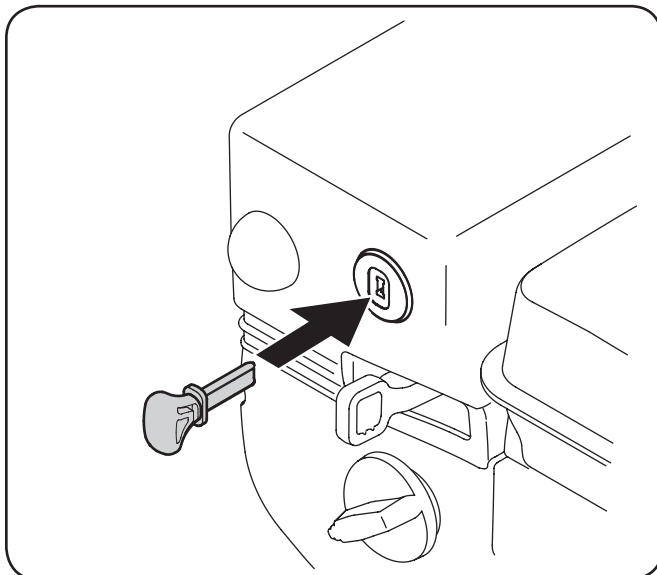

Figure 5-1
2. Insert the ignition key fully into the slot, Fig. 5-1. Make sure it snaps into place. **DO NOT** turn the ignition key. The engine cannot start unless the key is inserted into the ignition switch.
1. Insert the ignition key fully into the slot, Fig. 5-1. Make sure it snaps into place. **DO NOT** turn the ignition key. The engine cannot start unless the key is inserted into the ignition switch.